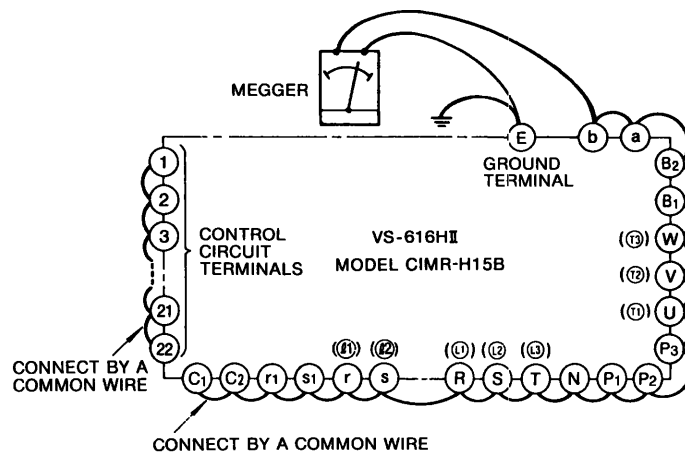

Fig. 10 Connections for Megger Testing
Connect the AC input, output terminals r (①), s (②), R (①), S (②), T (③), N , P_1 , P_2 , P_3 , U (①), V (②), W (③), B_1 , B_2 , a , and b by a common wire, and connect the control terminals ① - ②② (excluding ④, ⑤, ⑨) by a common wire, as shown in Fig. 10. After that, measure the insulation resistance between the common wire of input/output terminals and ground with a megger. Never measure the insulation resistance of circuit other the main circuit (power line). For both the input and output terminals, a reading above $1M\Omega$ is considered satisfactory.